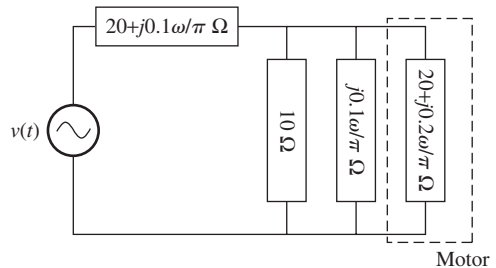

FIGURE P6.43 Circuit for Problem 6.43.
6.43 (H)* The electric fan circuit shown in Figure P6.43 is connected to US standard AC power (assume no phase angle). What is the cost of electric utility if the fan rotates at a constant speed for 12 h? Assume that the cost of electricity is 23 cents per kilowatt hour. (*Hint:* Assume the average power is $P_{av} = V_{rms} I_{rms}$.)